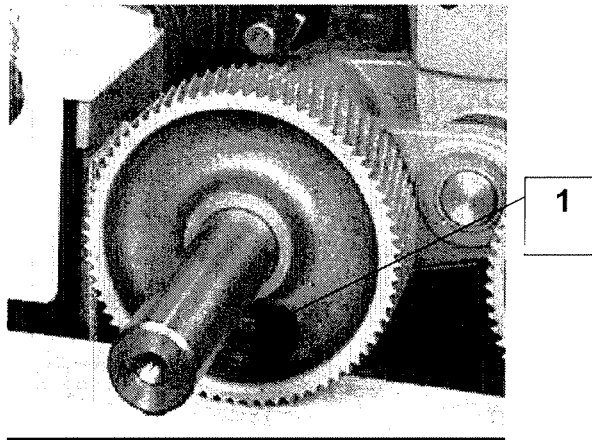

Figure 7.3.5
7.3.5 Replace Shaft-Mounted Top Feed Roll (Figure 7.3.5)
- 1 Slacken set screw (1).
- 4 Position the feed roll to suit the product width and tighten set screw (1).